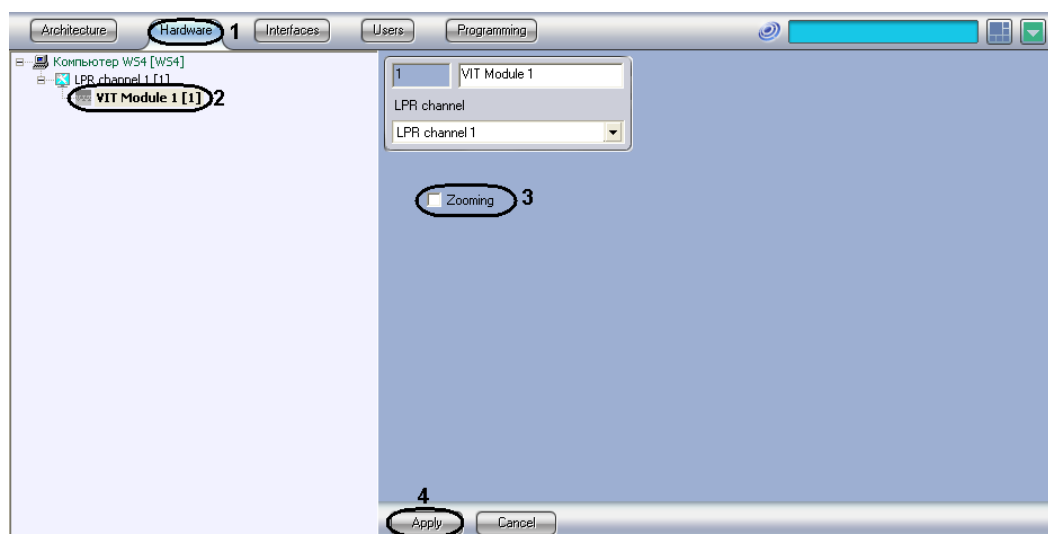

Fig. 7.2—6 Setting up the VIT program module
2. In the objects tree on the Hardware tab select the VIT object, corresponding to the set VIT program module (Fig. 7.2—6, 2). The settings panel of the selected object will open on the right of the window.
3. Set the «Zooming» check box to increase the plate recognizing speed on mega-pixel video cameras without loss of recognizing quality (Fig. 7.2—6, 3).